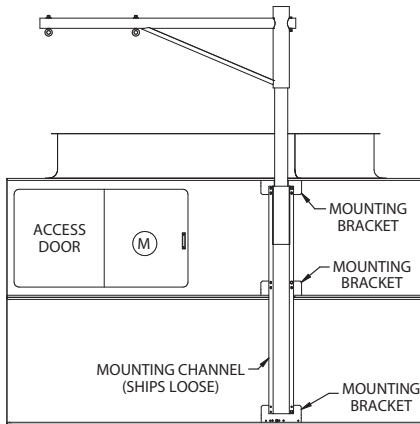

Figure 19 - Dual-Point Davit Arrangement
Motor davits, also known as jib-booms, are offered by EVAPCO as an optional accessory to facilitate removal of the motor, fan assembly or gear box. The assembly consists of a davit and a mounting base that is to be attached to the side of the unit next to the access door, as shown below in Figure 19. Both these items will ship loose in the unit's basin. On multi-cell units, there will be provisions to install a mounting channel on each cell. Use the following procedure to install the mounting channel:
6. Check angular misalignment with a dial caliper on **gear drive side**, as shown in Figure 19.